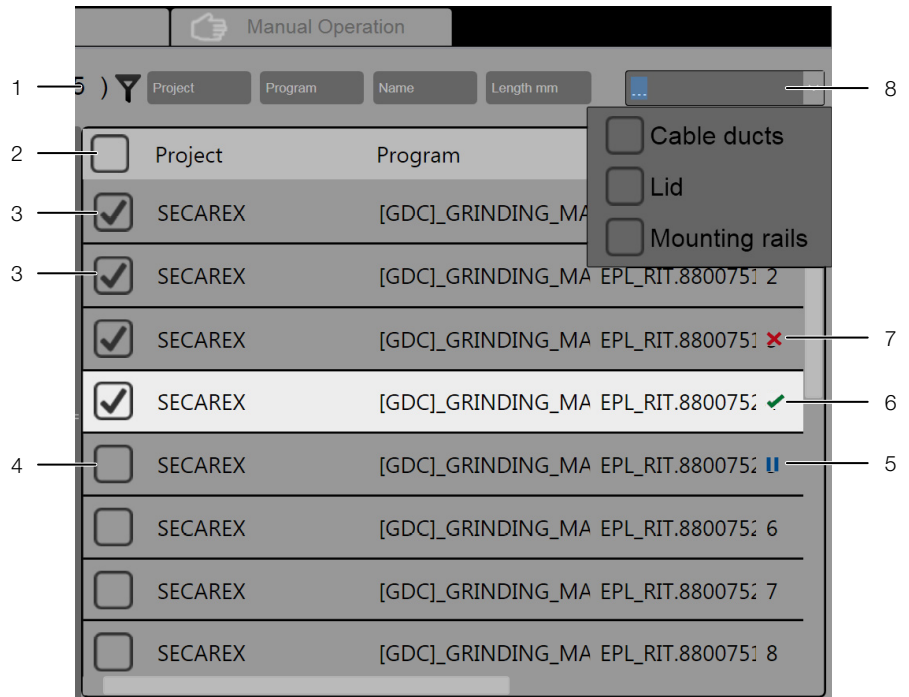

Fig. 10: "Preparation" tab – Production list
- Select successively the desired components by activating the checkbox (fig. 10, item 3) in front of the associated component.
- Press the "<>" button (fig. 10, item 8) in the "EF" column of the workpiece that you want to machine.